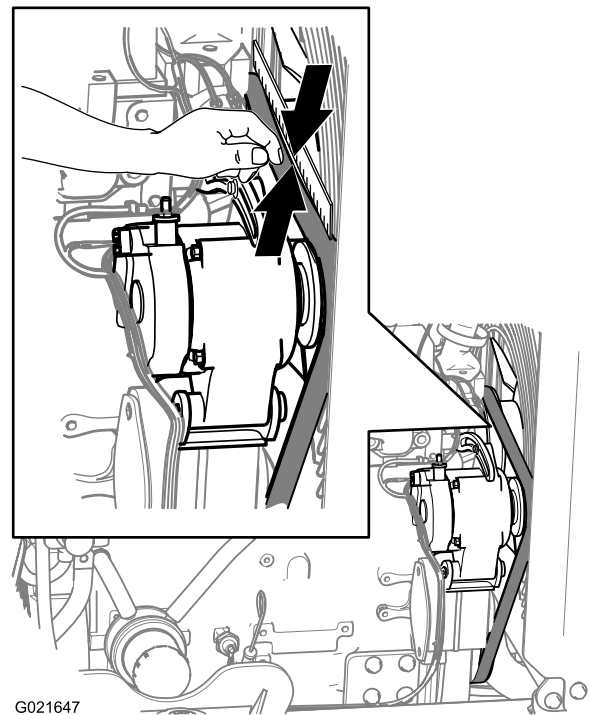

Figure 86
2. Place a straight edge over the drive belt and across the pulleys as shown in Figure 86.
3. Press the belt down at the midway point between the fan pulley and the alternator pulley as shown in Figure 86.